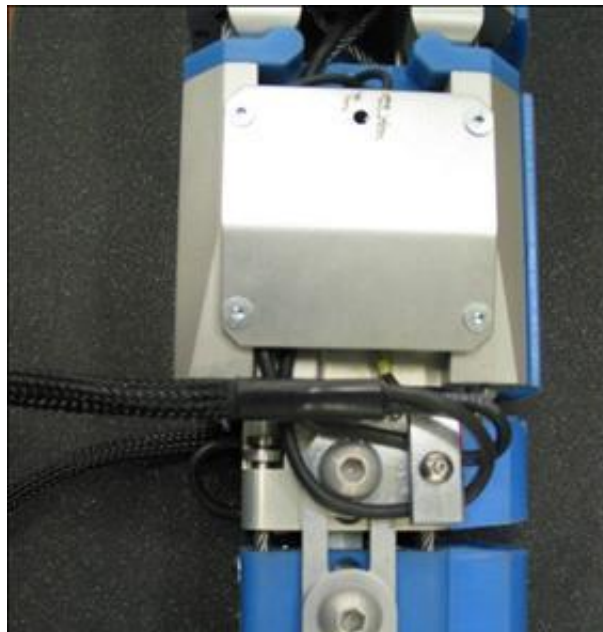
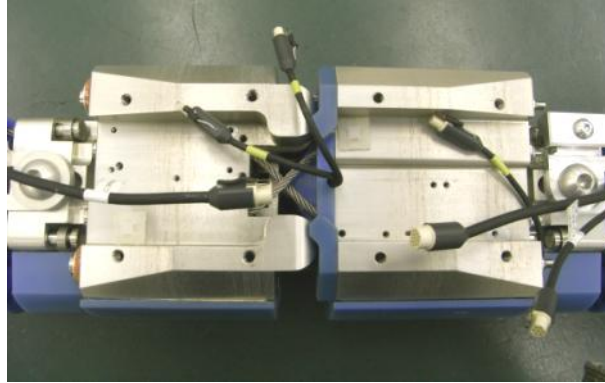

Figure 17 Clamping Arrangement and Position for Off board Wires
Figure 18 Off Board wiring left hand side of impact face
For off board DAS umbilical cables of 10m long exit the leg just below the knee. This position is close to the CG of the leg to minimize the mass affect from the cables in free flight. The cables are clamped to the leg via the top shoulder link bolts of the tibia to provide restraint protection to the connectors see Figure 17. If off board cables are not used the clamps should be replaced with washer 133-5105 item 16 in Figure 67. See Figure 18 for left hand side wiring arrangement. The connectors at the off-board DAS side are specified by the customer and fitted by Humanetics as all users have different systems.
It is important to route the off-board cables out of the knee to ensure good free flight to the target. See Figure 17 for an example. Users can establish their own wire routing but the important issues to note are that both sides are balanced and there is no restriction at release from the pusher plate when fired.